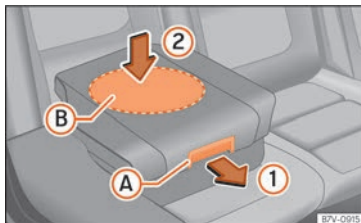

Fig. 99 Embedded child seat: lower the pillow.
- Pull the unlock lever »» Fig. 99 A on the cushion in the direction of the arrow ①.
- Push the cushion down through the central area B in the direction of the arrow ② until it safely engages »» ④. The side supports fold away automatically.
When lowering the integrated child seat, only press on the centre of the cushion »» Fig. 99 ②. Otherwise the cushion could bend and not engage properly.